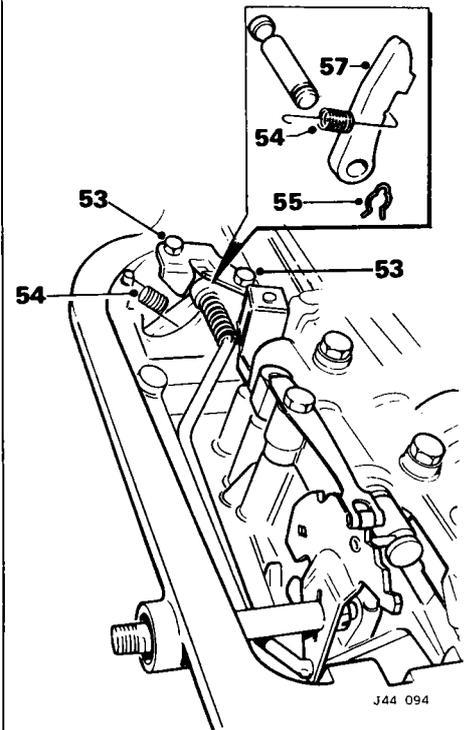

Fig. 13
53. Remove the parking pawl bracket securing bolts (Fig. 13) and remove the bracket.
54. Remove the parking pawl spring (Fig. 13).
55. Remove the spring clip (Fig. 13) securing the parking pawl to the pivot shaft.
57. Remove the parking pawl (Fig. 13).